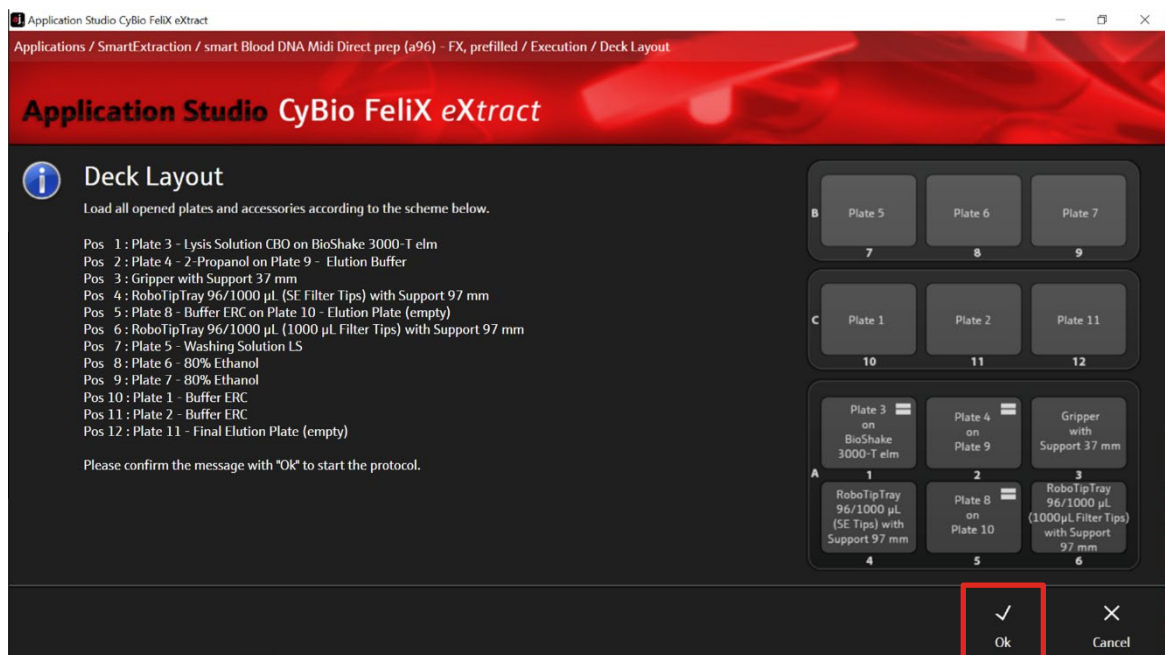

Figure 15: Deck layout for checking the correct positions of all plates and accessories.
9. Check the correct positioning of plates and accessories on the corresponding deck positions (→see Figure 15) and confirm with "Ok".